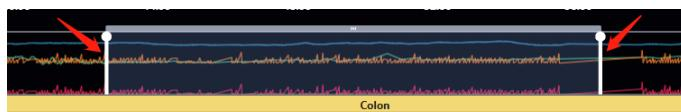

Figure 4-19 Zooming the Graph Using Global View
- Using the global view: Drag the left and right edges of the slider on the global view, as shown in Figure 4-19, to set the time points for the left and right endpoints of the graph. (The content covered by the slider equals what is displayed on the data graph.)